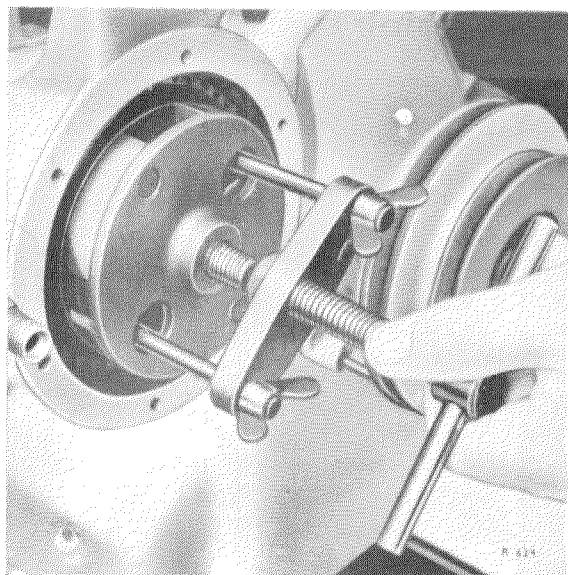

Figure 07-25/3
7. Clean and oil the injection timing device and put it on the driving shaft, so that the marked teeth (1) are engaged (see Figure 07-25/1).